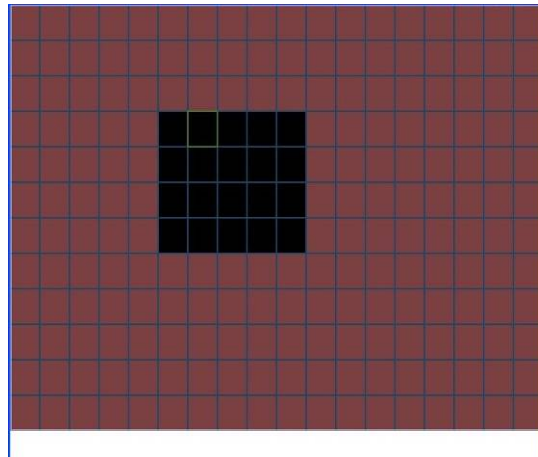

Figure 4-18
- Region: Click select button, the interface is shown as in Figure 4-18 Here you can set motion detection zone. There are 396(PAL)/330(NTSC) small zones. The green zone is current cursor position. Grey zone is the motion detection zone. Black zone is the disarmed zone. You can click Fn button to switch between the arm mode and disarm mode. In arm mode, you can click the direction buttons to move the green rectangle to set the motion detection zone. After you completed the setup, please click ENTER button to exit current setup. Do
In Figure 4-18, you can left click mouse and then drag it to set a region for motion detection.